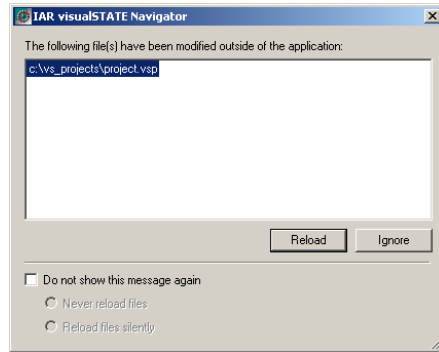

Figure 7: Navigator reload message
- 5 Return to the Navigator. A reload message may be displayed. See *Figure 7*, page 14.